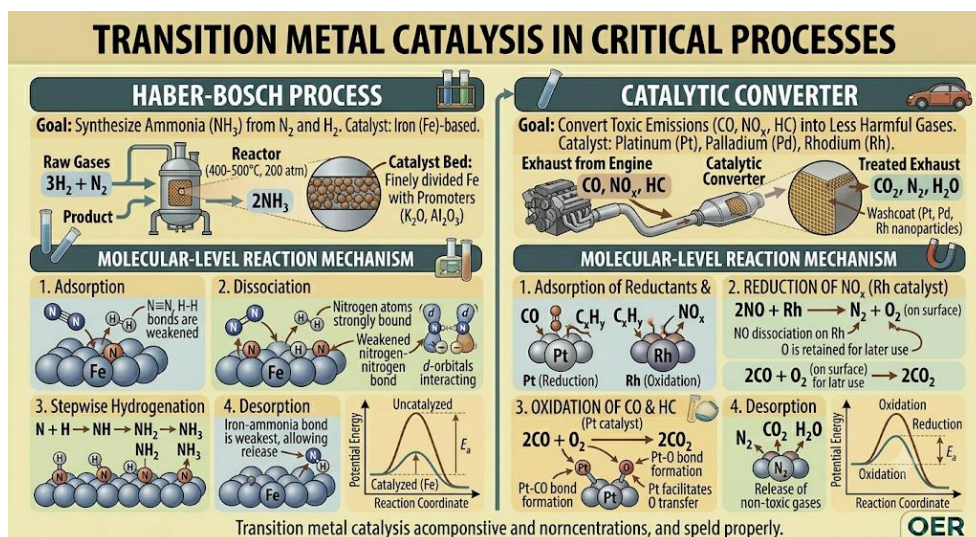

Figure 5.6 Industrial catalysis using transition metals.
- Figure 5.6 Industrial catalysis (OER diagram).